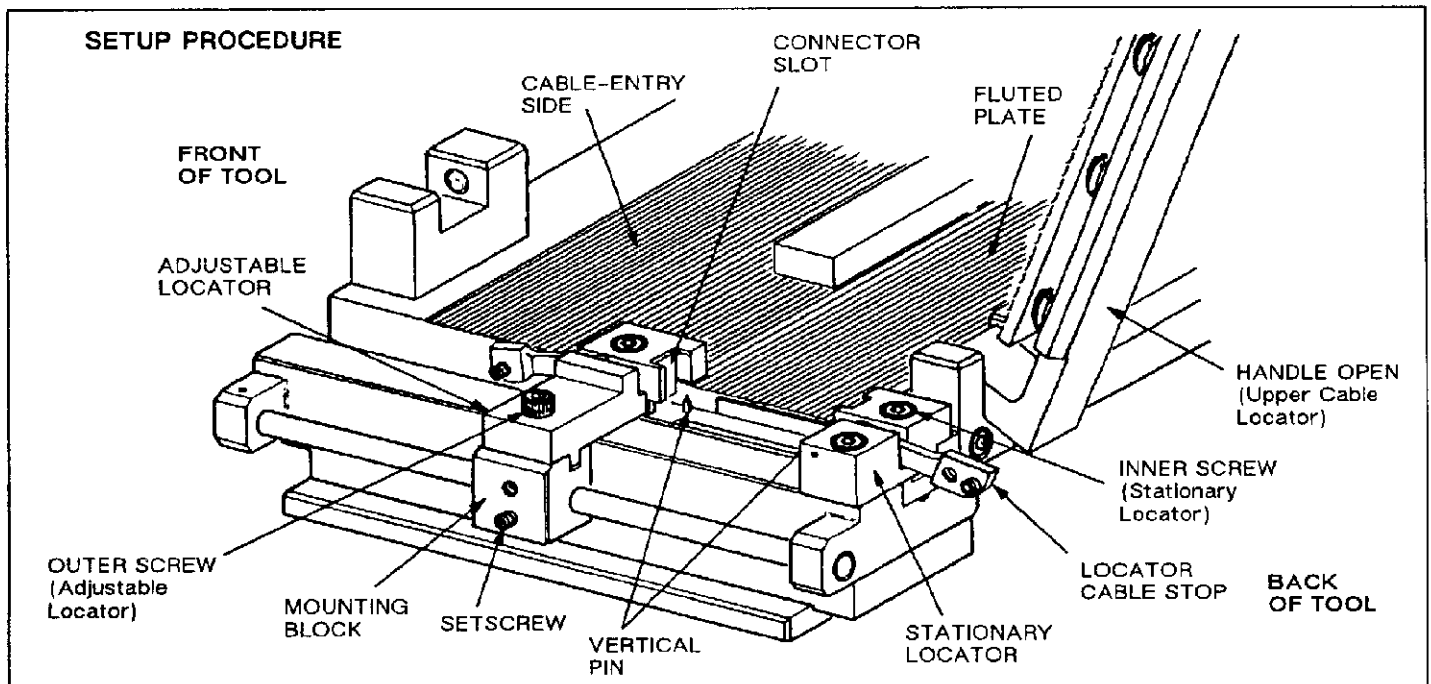

Fig. 4
**A. Setup Procedure (Figure 4)**